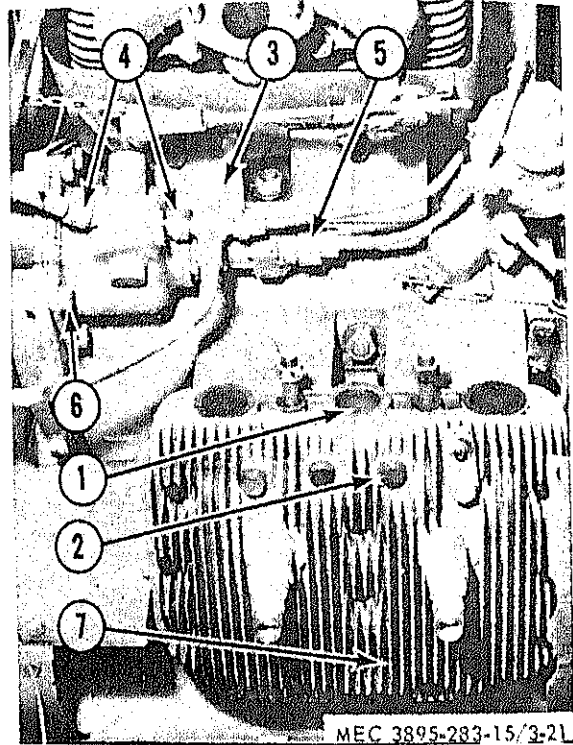

Figure 3-21. Cylinder Head Removal.
(1) Install new exhaust and inlet port gaskets (1, fig. 3-21).
(2) To replace the lower manifold, follow the steps in section *a* above in reverse order. Torque the manifold hold-down nuts to 14-18 foot-pounds.
(1) Remove upper manifold as outlined in paragraph 3-40.
(2) Remove the cylinder baffles as outlined in paragraph 3-36.
(3) Remove the cylinder head screws (2, fig. 3-21).
(4) Remove the cylinder head from engine.
b. Remove valve tappet inspection plates (3, fig. 3-21) from cylinder block.
(2) Remove oil lines (4, fig. 3-21) from governor.
(3) Loosen adaptor nut (5) and remove tachometer drive.
(4) Remove screws (6).
(5) Pull governor assembly from engine. Take care not to damage gear when removing governor.